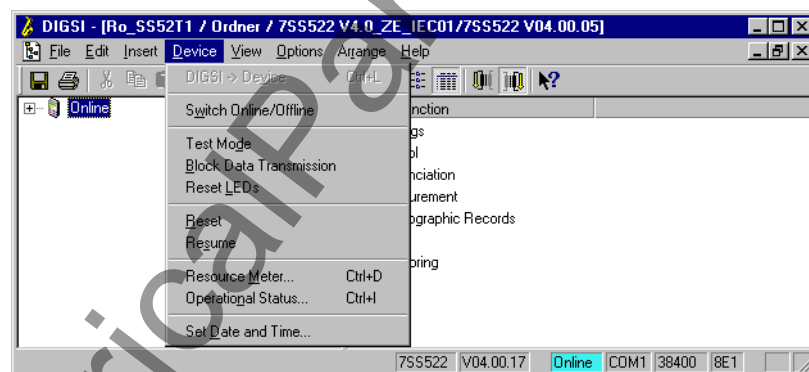

Figure 6-24 Selecting the Set date & time command
- ☐ Click **Device** → **Set Date & Time** (see Figure 6-24, page 233). The dialog box **Set clock & date in device** opens. The displayed values show the actual date and about the actual time. The day is determined automatically from the date and cannot be edited.